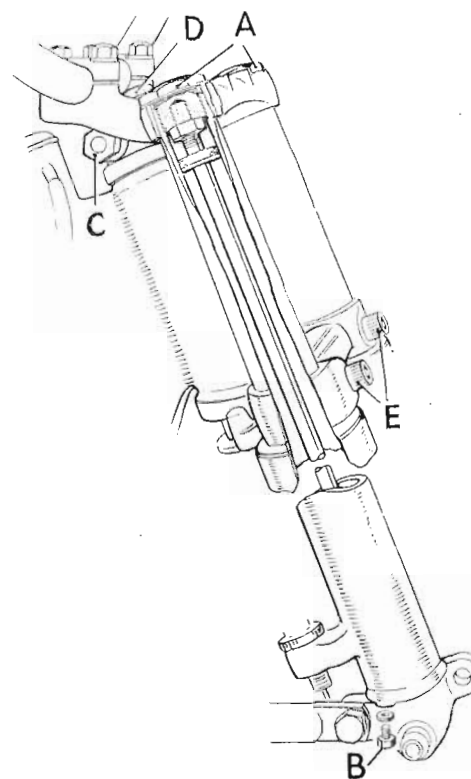

Fig. 21.
Unscrew the nuts (A) Fig. 21, and the drain plugs in the lower end of the fork sliding members as shown at (B). Allow all the oil to drain out, then standing astride the machine, apply the front brake and depress the forks a few times to drive out any oil remaining in the system.
Slacken the clamping nuts (C) and (E) Fig. 21, then tighten down the cap nut (D) below the handlebars until the adjustment is correct.